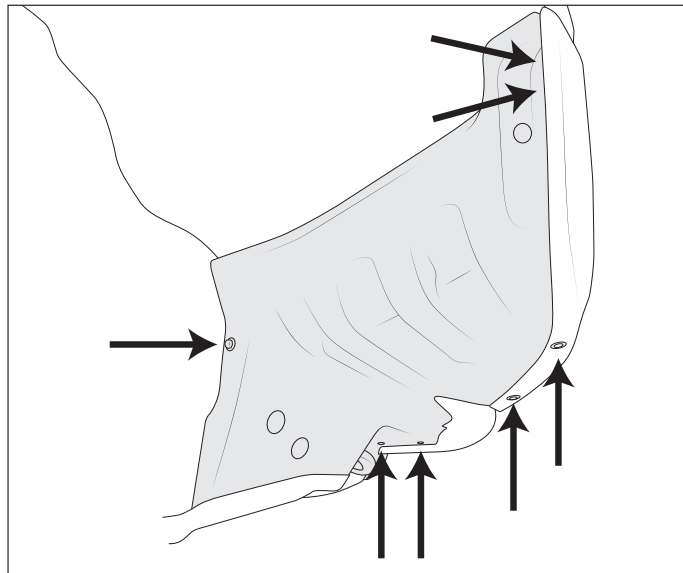

Figure 6
6. Remove LH and RH wheel liner closeouts (fig.6).